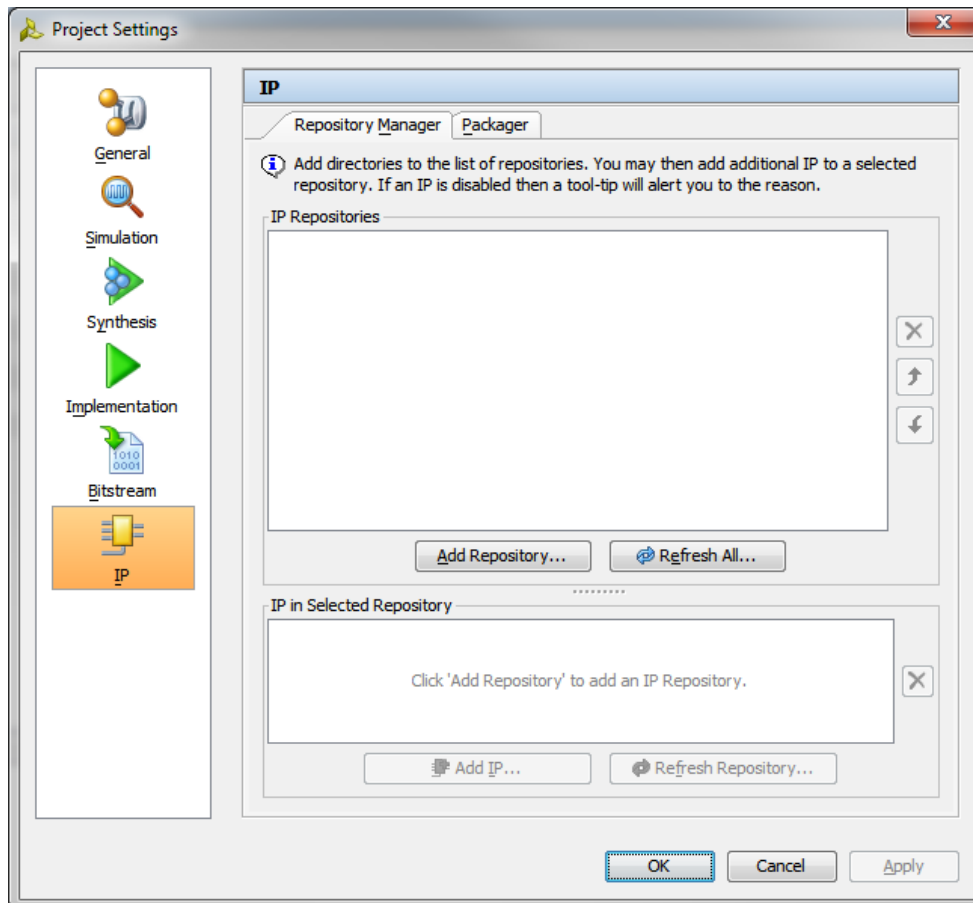

Figure 5.2: IP Settings Window
The IP Settings window will open, as shown in Figure 5.2.
- (i) In the IP in Selected Repository panel, shown in Figure 5.2, click **Add IP**.